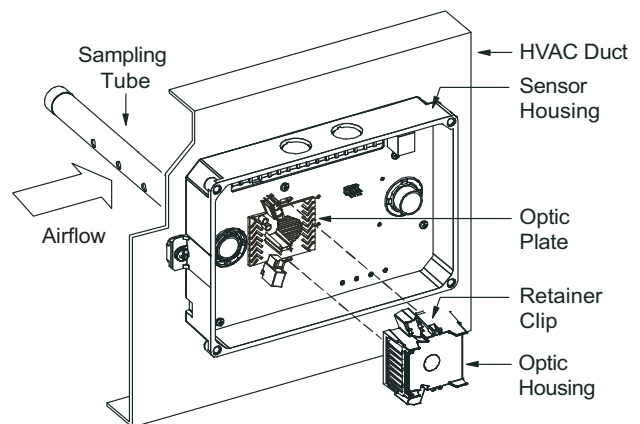

Fig. 45 — Sensor Cleaning Diagram
1. Disconnect power from the duct detector then remove the sensor's cover. See Fig. 45.